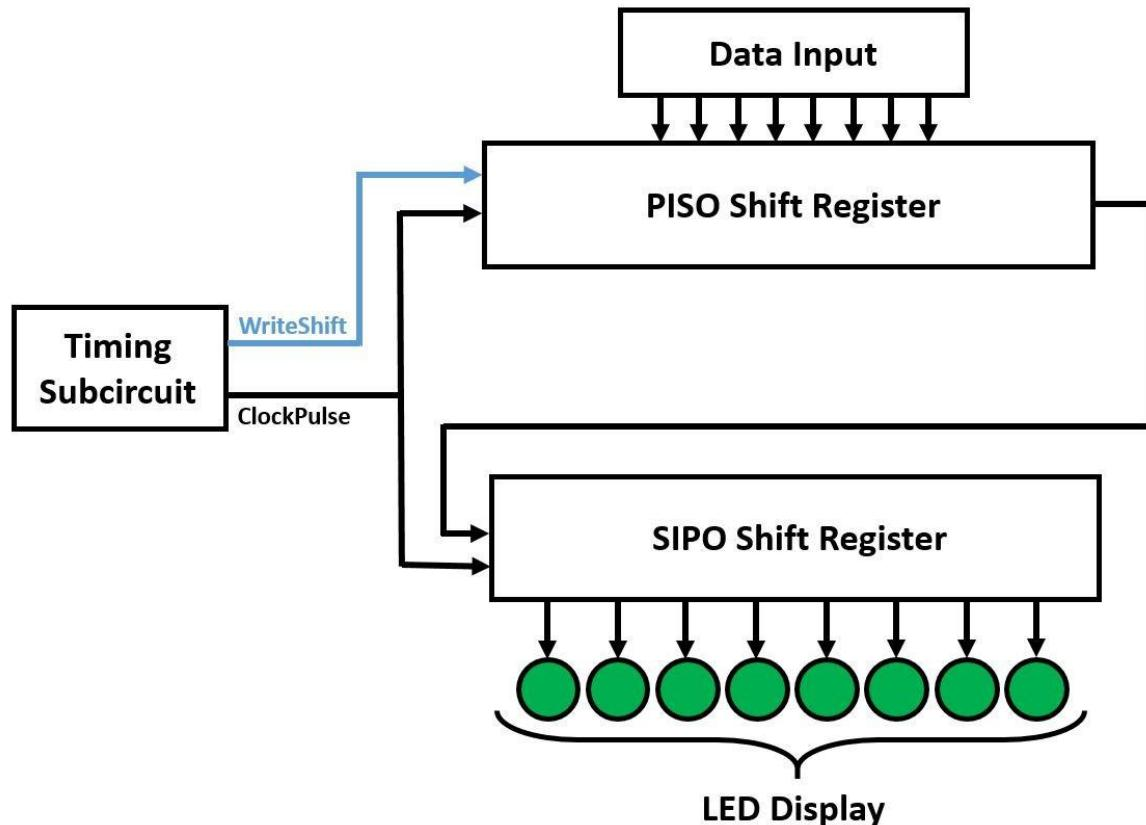

Figure 1-5 Communication system block diagram
1. Using the block diagram given at the beginning of this section, *Figure 1-5*, wire the different sub-circuits together.